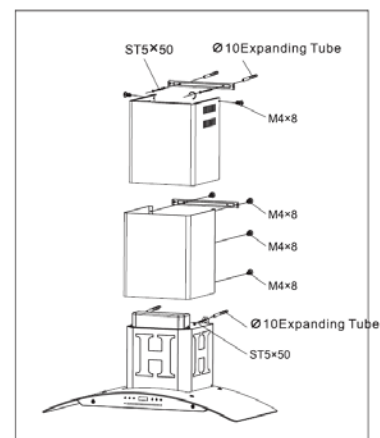

Fig. 8
- Fix the inner duct to mounting bracket using 2 (two) M4 x 8 screws provided (Fig. 8).